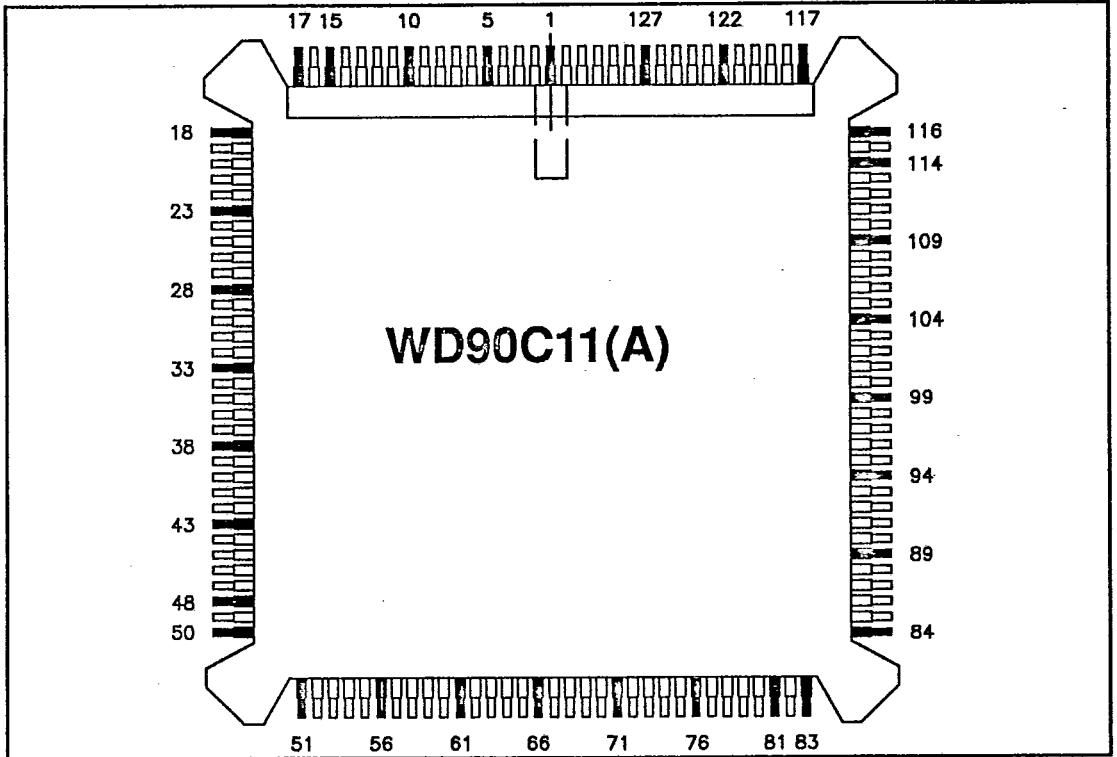

FIGURE 4-1. WD90C11(A) PIN DIAGRAM
Figure 4-1 displays the WD90C11(A) pin layout. The following table provides a signal listing for the 132-pin WD90C11(A) package. The signals are grouped according to their application and described in Table 4-2.